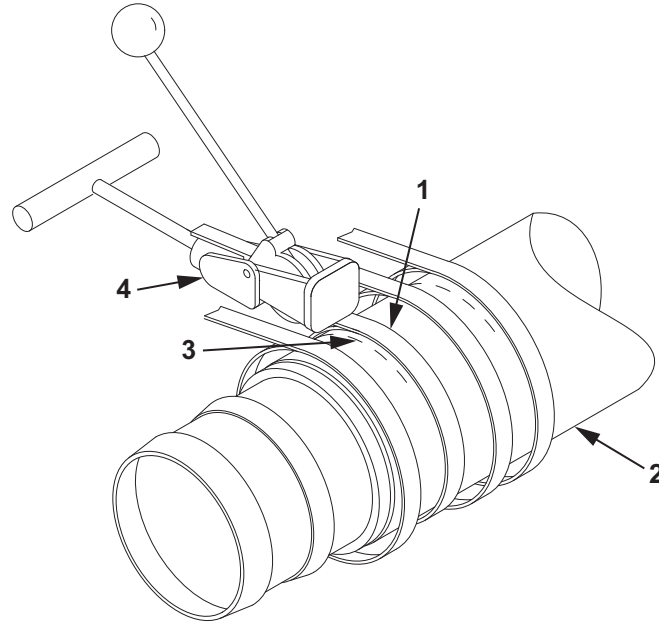

Figure 9. Hose Assembly Repair.
24. Position the first clamp (Figure 9, Item 1) on the hose assembly (Figure 9, Item 2) until it is aligned with the first mark (Figure 9, Item 3) previously made on the hose assembly.
25. Using clamping tool (Figure 9, Item 4), tighten the clamp (Figure 9, Item 1) until almost flush with the hose assembly (Figure 9, Item 2) surface.